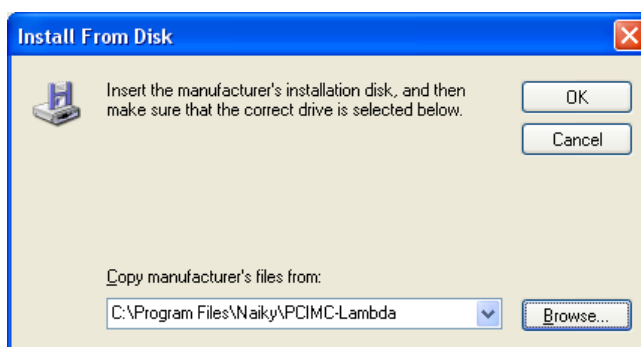

Fig. 4-6 Find driver location—3
- 6) After selecting the corresponding driver file, click “Open” to return to the previous page, showing the file directory under “Copy manufacturer’s files from”, as shown in Fig. 4-6.